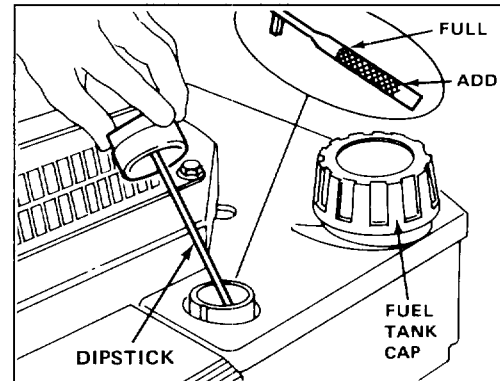

Figure 3
Before each use, assure oil level is between FULL and ADD marks on dipstick (Fig. 3). Add oil if level is low.
3. Wipe dipstick and insert it into filler neck. Rotate cap clockwise 1/4 turn. Then remove dipstick and check level of oil (Fig. 3). If level is low, add only enough oil to raise level to FULL mark on dipstick. **DO NOT FILL ABOVE FULL MARK BECAUSE ENGINE COULD BE DAMAGED WHEN STARTED. POUR SLOWLY.**
1. Clean around fuel tank cap and remove cap from tank (Fig. 3). Using unleaded gasoline, fill fuel tank to within 1/2 inch (13 mm) from top of tank.
1. **CHECK OIL LEVEL**—Maintain oil level between ADD and FULL marks as shown on dipstick (Fig. 3).